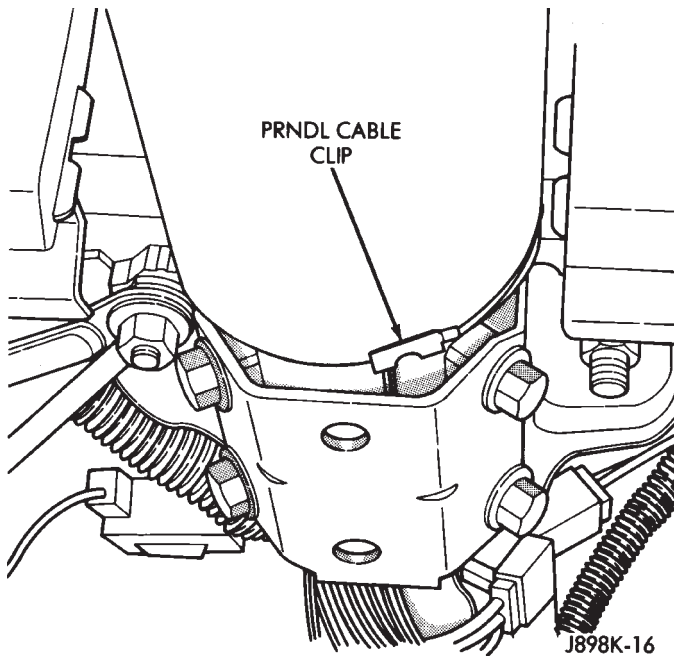

Fig. 11 PRNDL Cable Clip Remove/Install
- (17) Slide housing toward steering wheel.
- (18) Remove cover under column.
- (19) If vehicle is equipped with a column shift, remove PRNDL cable clip (Fig. 11).